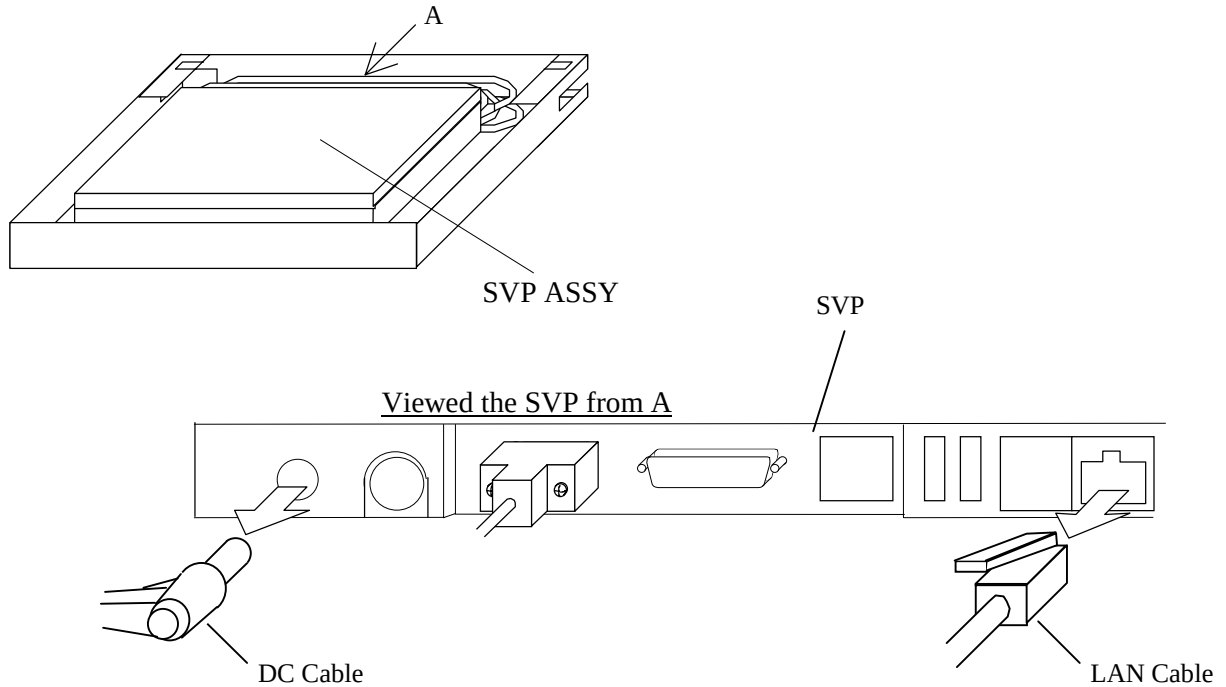

Fig. 3.18-13 Removing and installing Cables
- c. Connect the LAN cable and DC cable to the SVP. (See Fig. 3.18-13.)